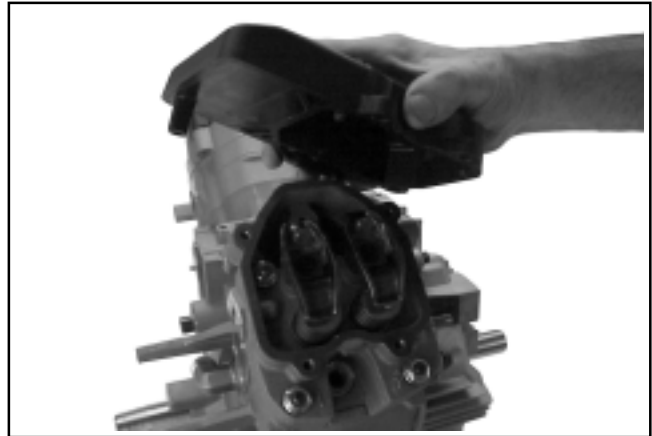

Figure 9-63. Removing the Valve Cover.
2. Break the cover/gasket seal by carefully prying under the edges of the cover. Remove the cover and gasket from each side. See Figure 9-63.